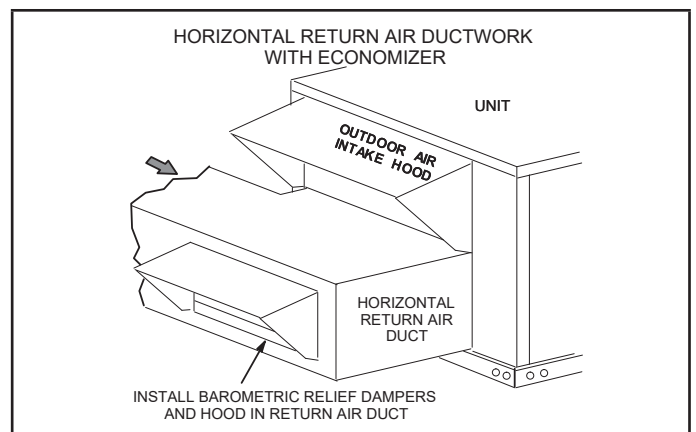

FIGURE 6
- Install return air duct beneath outdoor air intake. See FIGURE 6. Install barometric relief damper in lower hood and install in ductwork as shown in FIGURE 6.